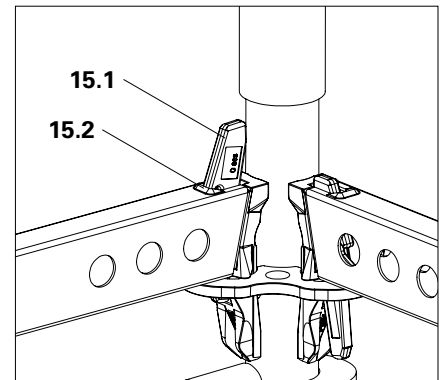
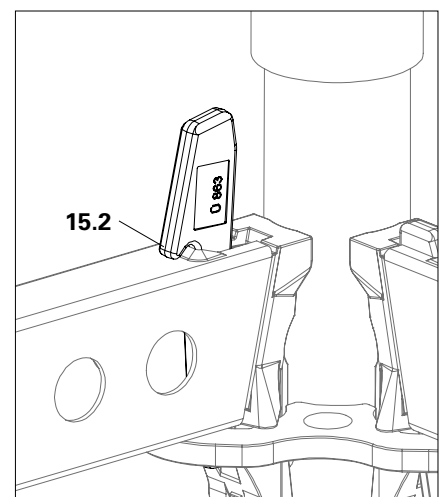

Fig. A3.04b
Fig. A3.05a
(Fig. A3.04b + Fig. A3.05a)
2. Lift out the wedge and place it on the ledger with the wedge nose (**15.2**). (Fig. A3.05a)